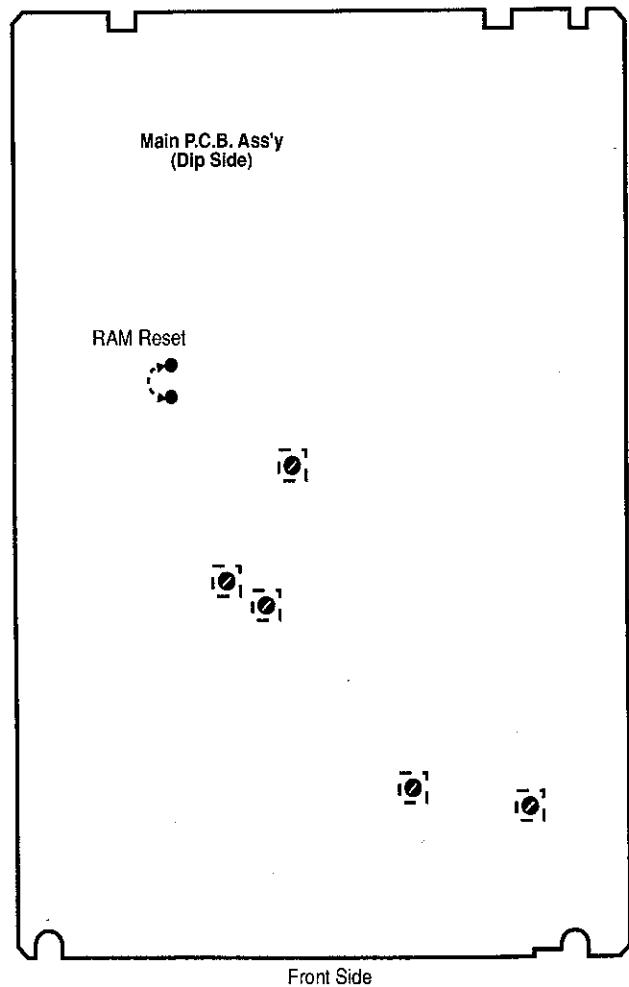

Fig. 1.3 Sticker Operation Check
- (1) Remove the Bonnet (Upper).
- (2) Turn ON the power.
- (3) Short the RAM Reset lands. See Fig. 1.3.
- (4) The sticker raises to the uppermost position, and then starts a series of CD unload operation as follows: